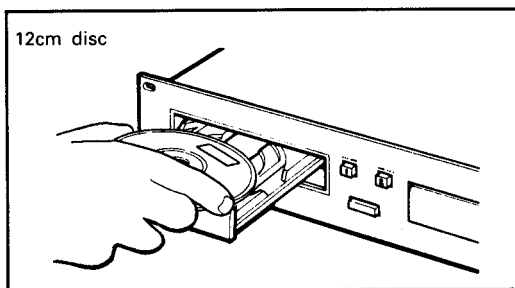
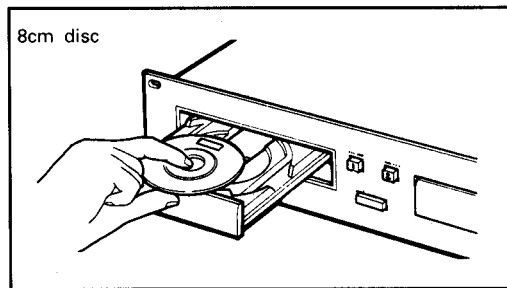

Figure 8
Figure 9
- When using 12cm discs, place the disc in the outer tray guides (Figure 8), and when using 8cm discs, place them securely in the inner guides (Figure 9).